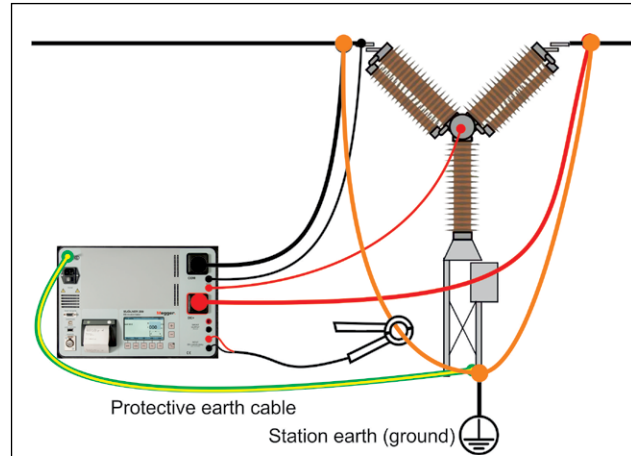

Fig. 6.1 Note that on MJÖLNER 600 the current outputs have reverse position.
**Note** *The sensing cables must be connected inside the current cables. Otherwise the test data may be incorrect. See Fig. 6.1.*
- 6] Apply the external current clamp to one of the grounding cables and connect the clamp outputs to the "INPUT DC current clamp" on MJÖLNER. See Fig. 6.1.